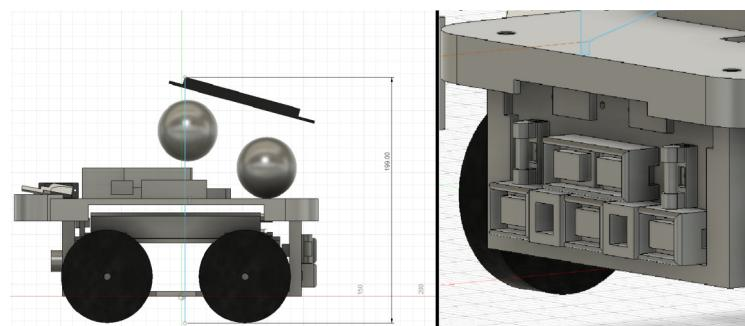

Figure 6: Observed height restrictions and back plate design
- Improved old back plate design and adding easy access fuses, digital voltmeters, and switches to the design (as shown on the right-hand side of Fig. 6)
- Ensured that height restrictions should also be observed with inclined victim storage and with display (as shown on the left-hand side of Fig. 6)